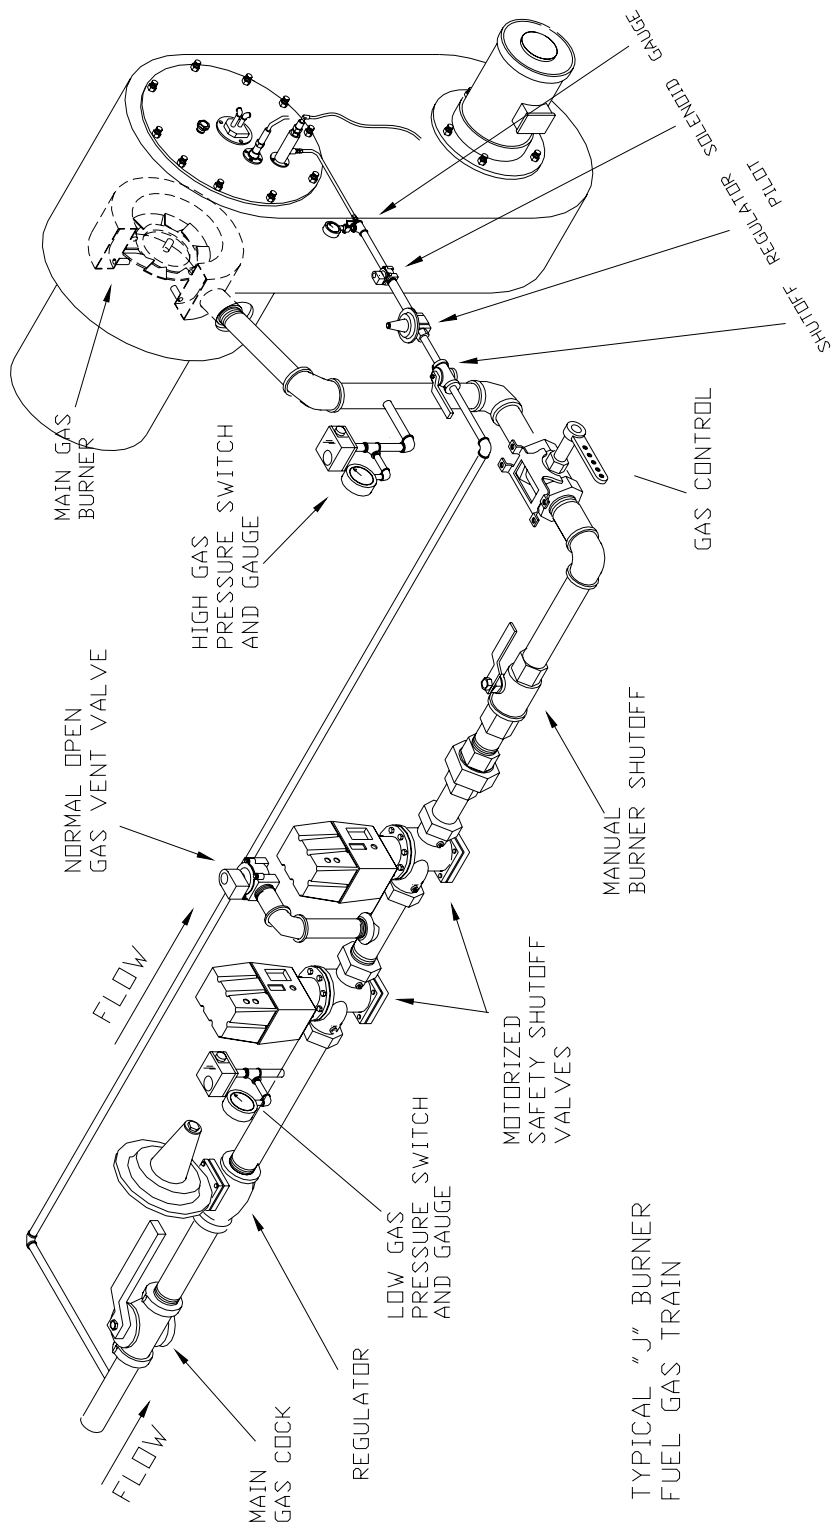

Fig. 7.1
A. Main & Pilot Gas Train (Fig 7.1)